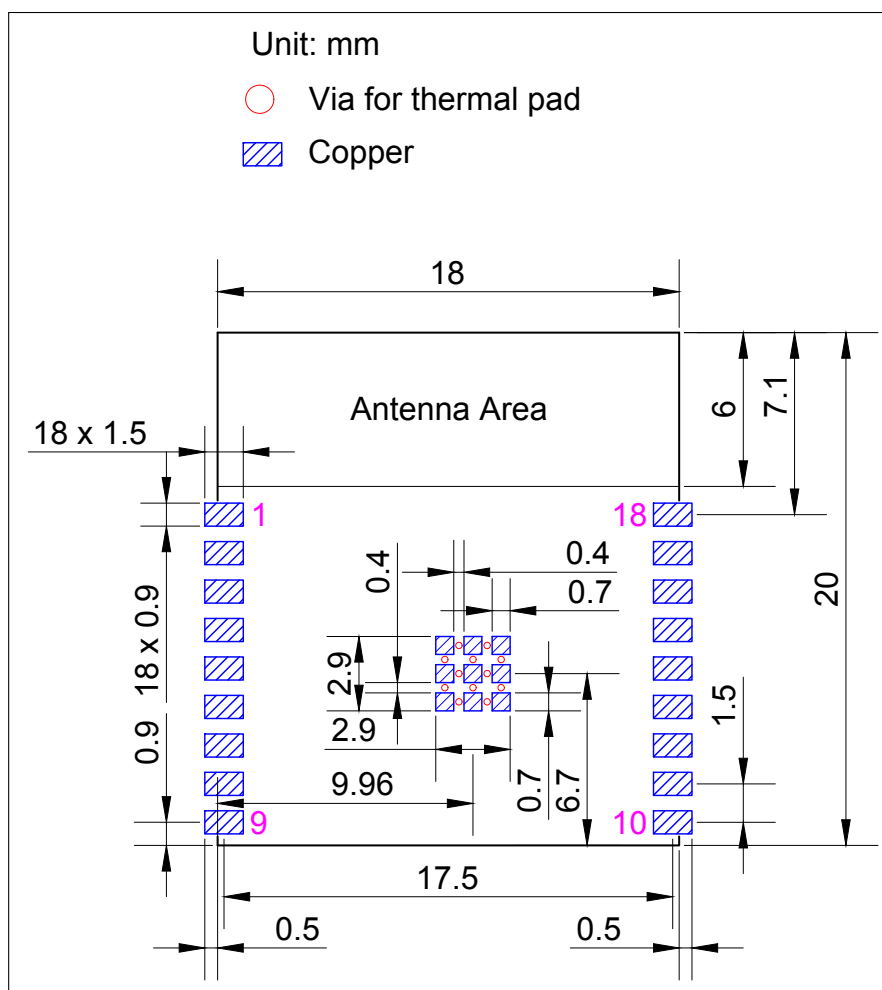
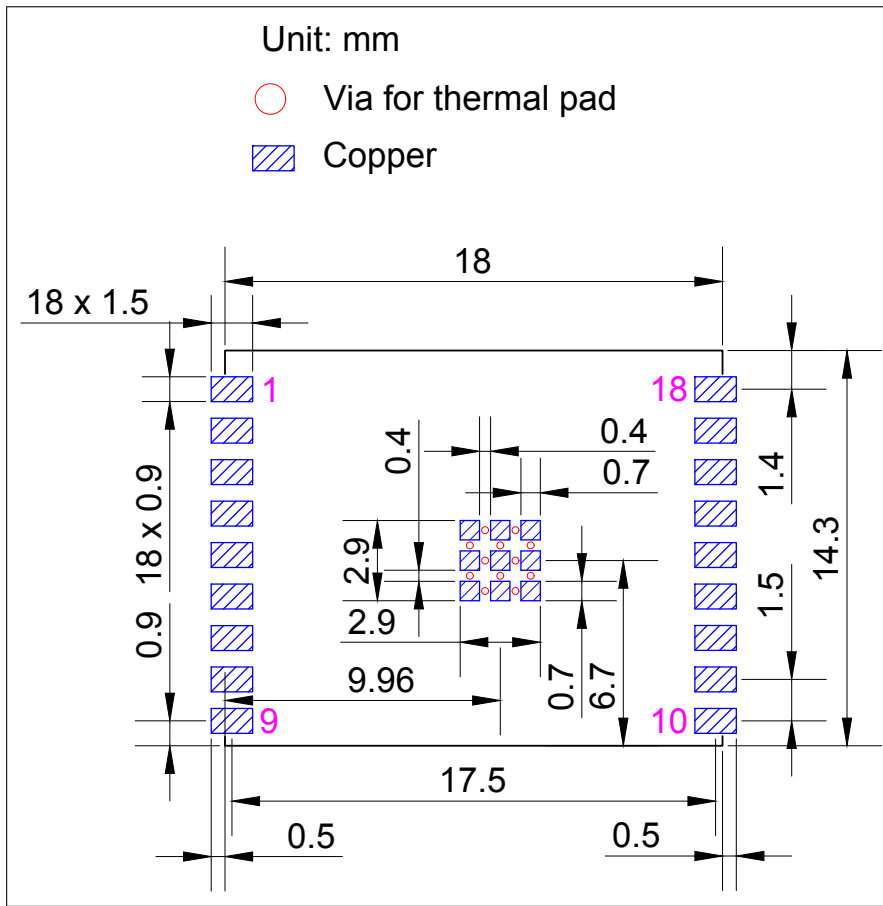

Figure 10: ESP32-C3-WROOM-02 Recommended PCB Land Pattern
Figure 11: ESP32-C3-WROOM-02U Recommended PCB Land Pattern
- Figures for recommended PCB land patterns with all the dimensions needed for PCB design. See Figure 10 *ESP32-C3-WROOM-02 Recommended PCB Land Pattern* and Figure 11 *ESP32-C3-WROOM-02U Recommended PCB Land Pattern*.
- Source files of recommended PCB land patterns to measure dimensions not covered in Figure 10 and Figure 11. You can view the source files for ESP32-C3-WROOM-02 and ESP32-C3-WROOM-02U with Autodesk Viewer.